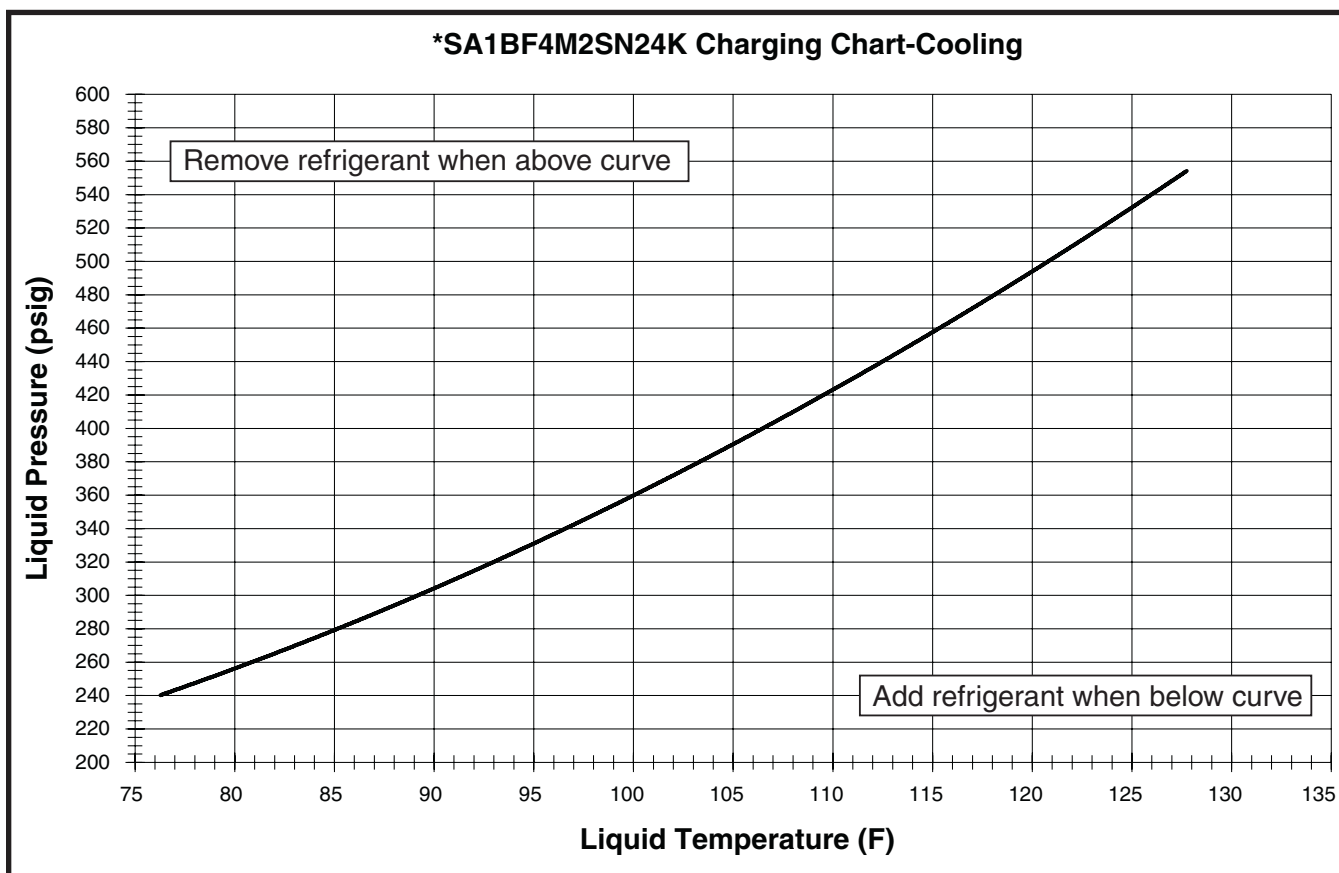
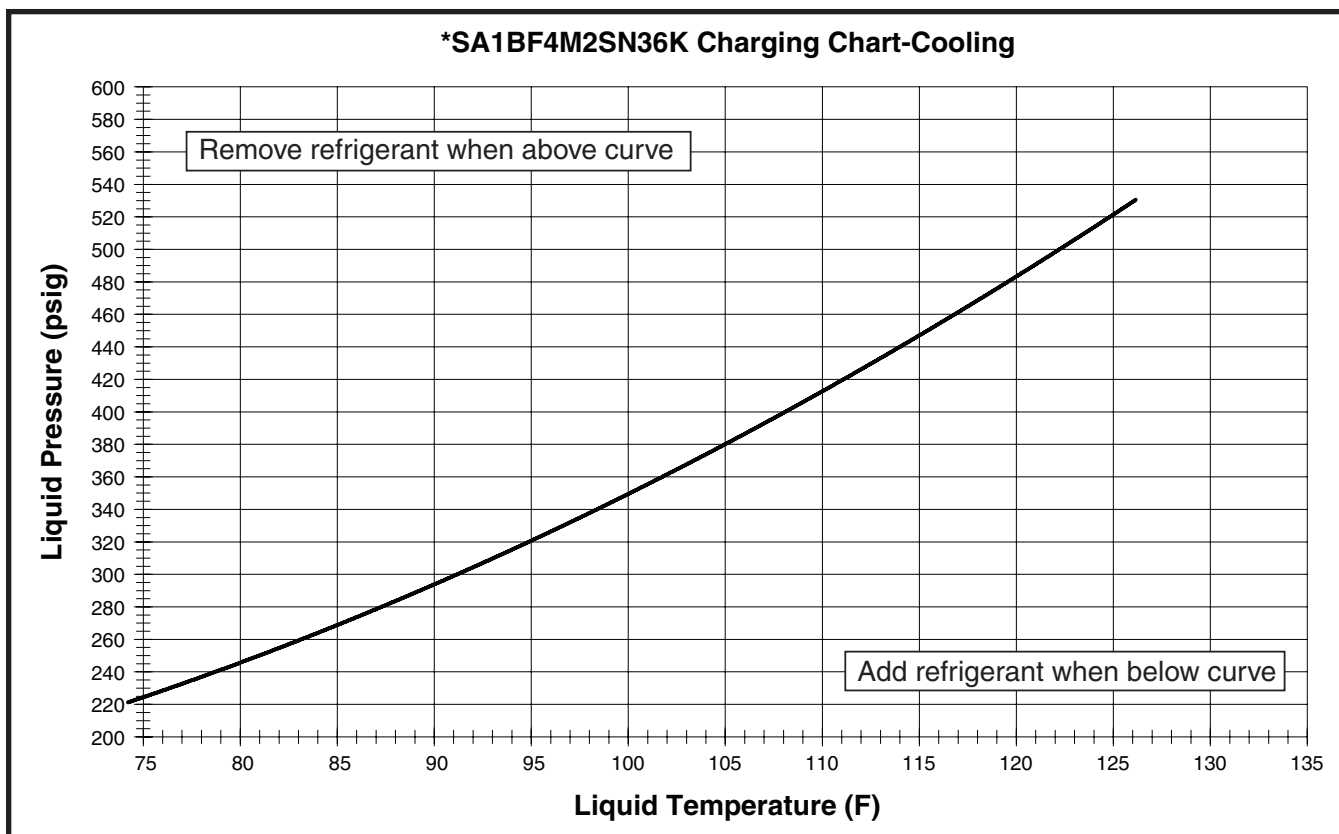
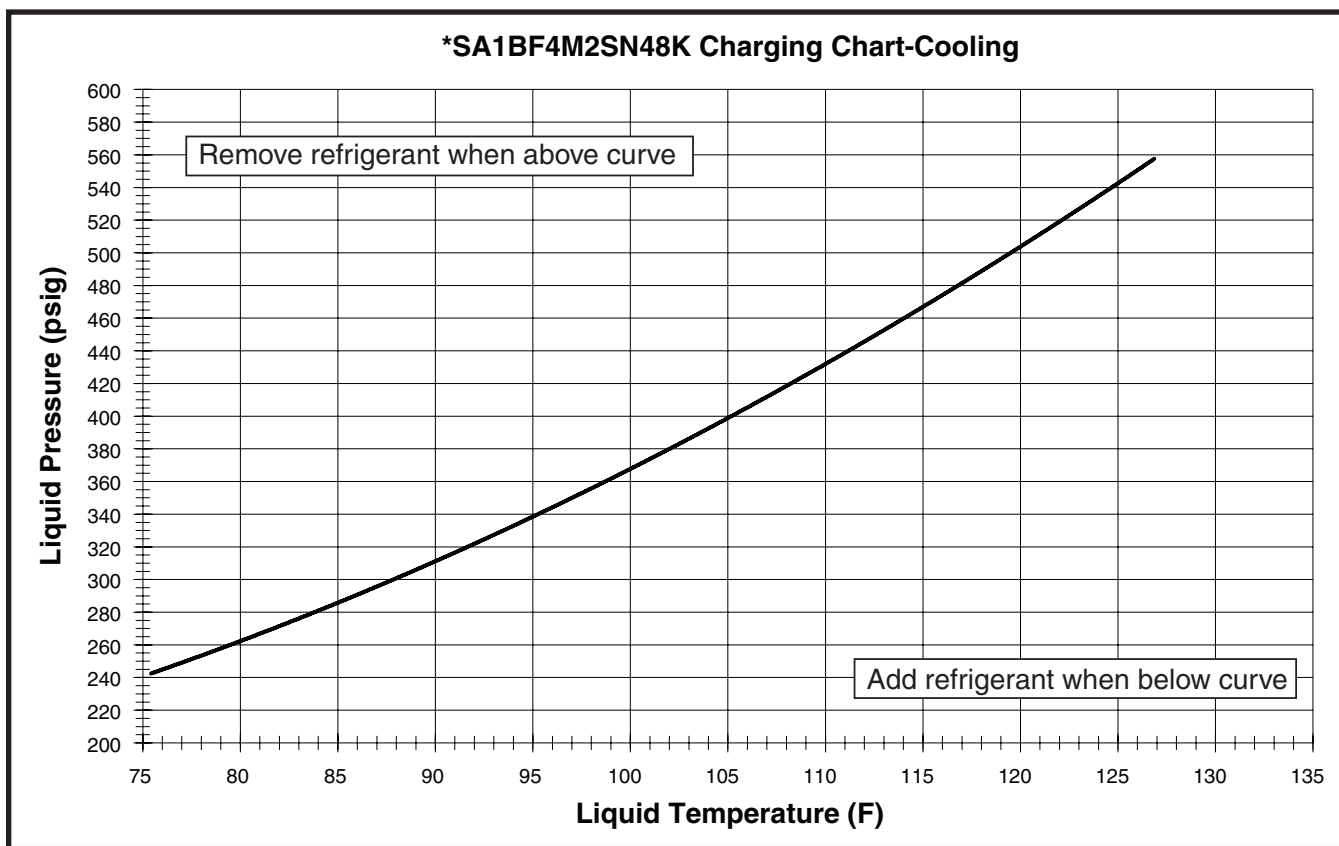
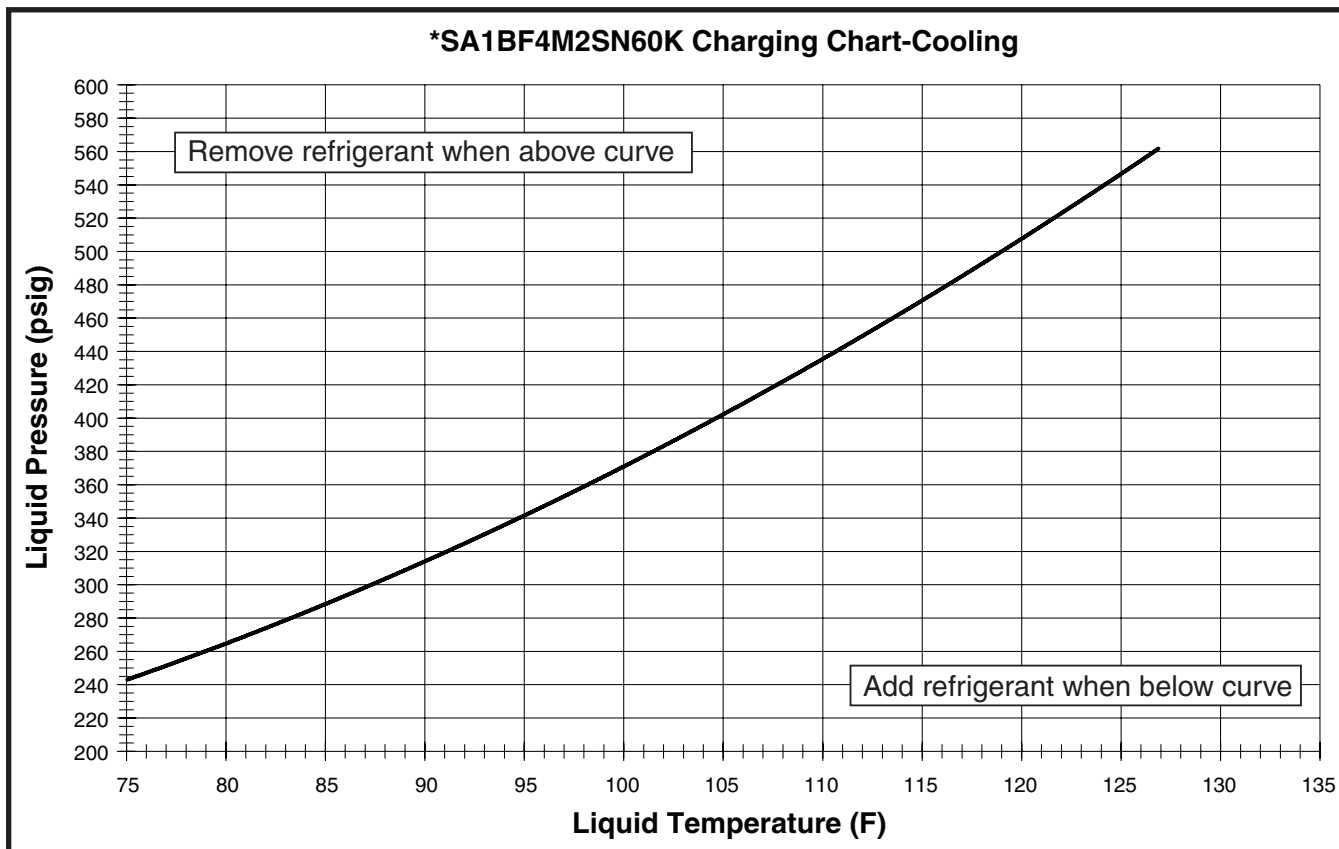

Figure 6. Charging Chart for 2 Ton Models
Figure 7. Charging Chart for 3 Ton Models
Figure 8. Charging Chart for 4 Ton Models
Figure 9. Charging Chart for 5 Ton Models
- Refrigerant charging charts are applicable only to matched assemblies and listed airflows for the indoor coil. Refer to Figure 6 \(page 9\), Figure 7 \(page 9\), Figure 8 \(page 10\), & Figure 9 \(page 10\) for correct system charging.
3. Determine the required liquid refrigerant pressure from the appropriate charging chart. See Figure 6 \(page 9\), Figure 7 \(page 9\), Figure 8 \(page 10\), Figure 9 \(page 10\).
- Charging charts are valid for a variety of indoor, return air conditions and are most influenced by the outdoor ambient temperature, outdoor fan operation and the unit operating voltage. Before using these charts, make sure the unit is in a stable operating mode. As shown in Figure 6 \(page 9\), Figure 7 \(page 9\), Figure 8 \(page 10\), & Figure 9 \(page 10\), the ideal system sub-cooling can vary over the range of operation. Reference the charts to determine the ideal amount of sub-cooling for a given liquid pressure. Units charged to other values will not perform at the rated unit efficiency (EER) or rated Coefficient of Performance (COP) in heating mode.